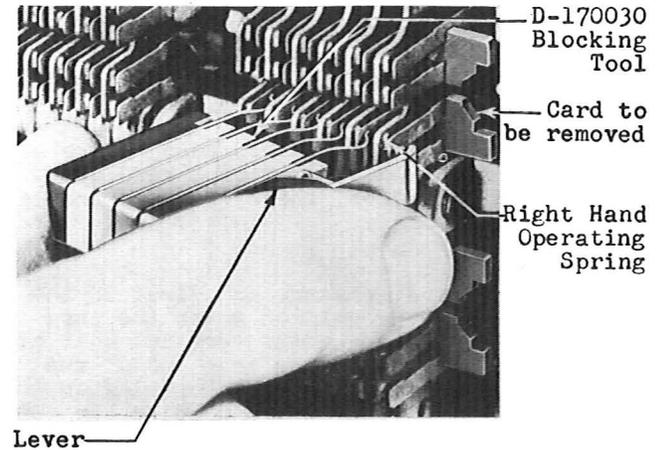
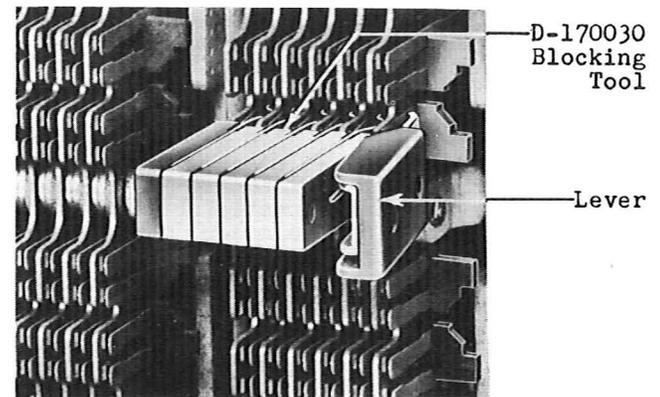

Fig. 5 - Applying Blocking Tool
Fig. 6 - Blocking Tool in Position
3.23 **Removing Old Card:** At the position of the card to be replaced, hold the D-170030 blocking tool with the lever at the right and the springs of the tool just in back of the springs of the vertical unit at which the card is to be replaced. Where the card is on a unit having less than six contacts per crosspoint, place the tool so that the lever is at the right and when in position will operate the right-hand operating spring. Force the tool into position, as shown in Figs. 5 and 6, exercising care not to damage the springs. Make sure that the tool is fully seated, that is, until the front end of the tool strikes the ends of the springs, as shown in Fig. 6, and that all the associated contacts of the crosspoint are closed.